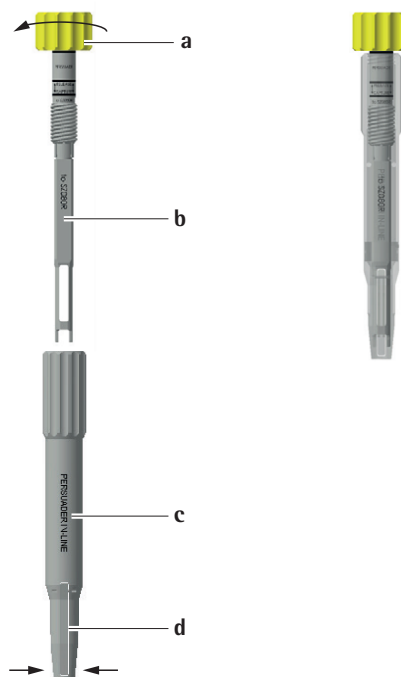

Fig. 72
- ▶ Hold the main body **c** vertically so that the arms **d** are flush with the main body **c**. Insert the persuasion shaft **b** into the main body **c**, see Fig. 72.